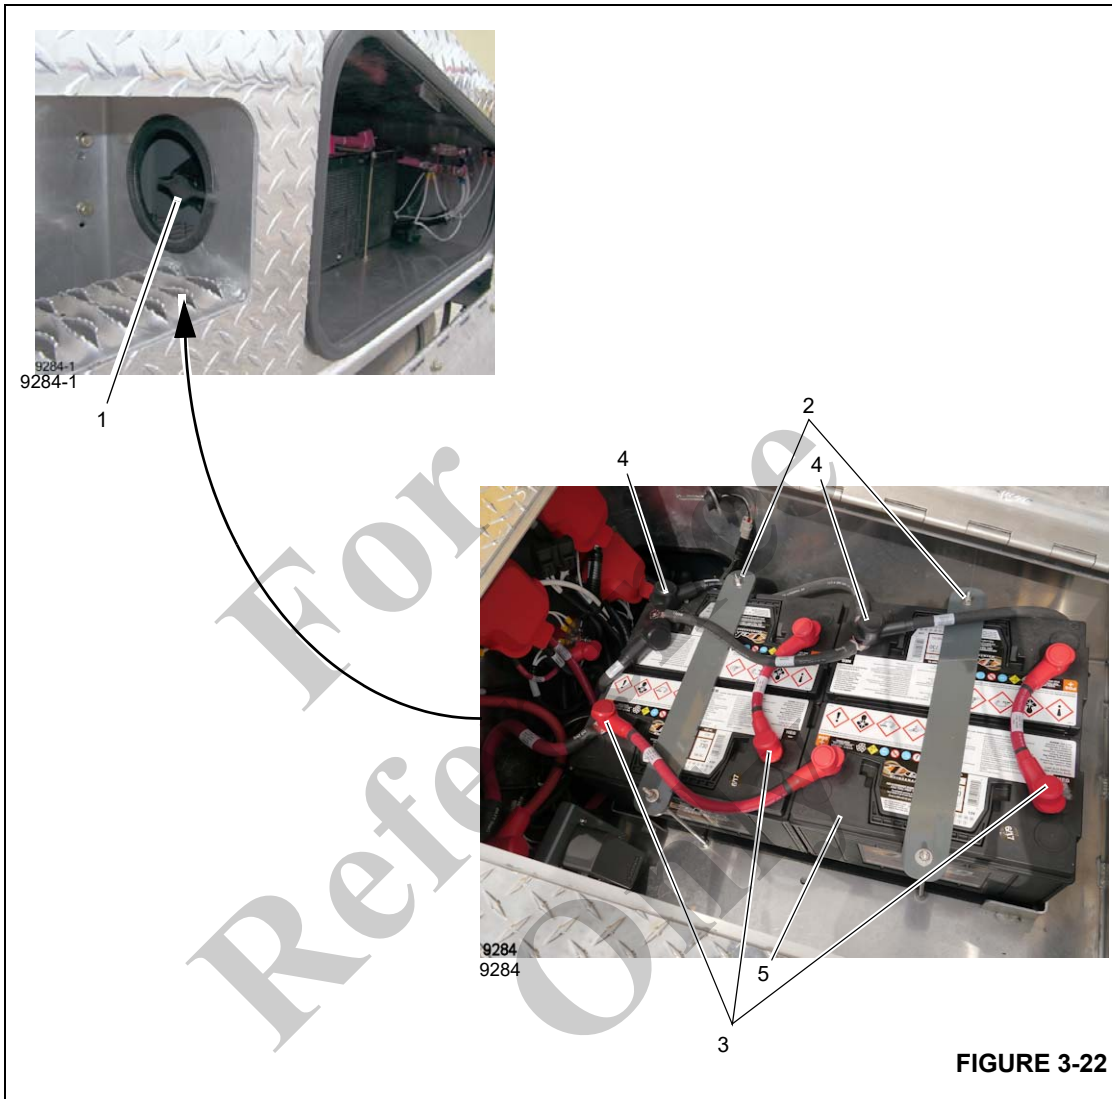

FIGURE 3-22
4. Remove the negative battery cables (Figure 3-22).
2. Turn the battery disconnect switch(1, Figure 3-22) to the OFF position.
4. Remove the negative battery cables (4, Figure 3-22).
5. Remove the positive battery cables (2).
6. Remove the nuts and washers from the bracket hold down rods (2). Remove the hold down brackets.
1. Place the batteries in the battery compartment, refer to Figure 3-22.